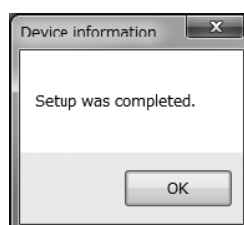

Fig.75
- ⑥ Click "OK" to change the settings to the inputted values, and then click the "OK" button in the displayed message box (Fig. 75) to complete the setting process.